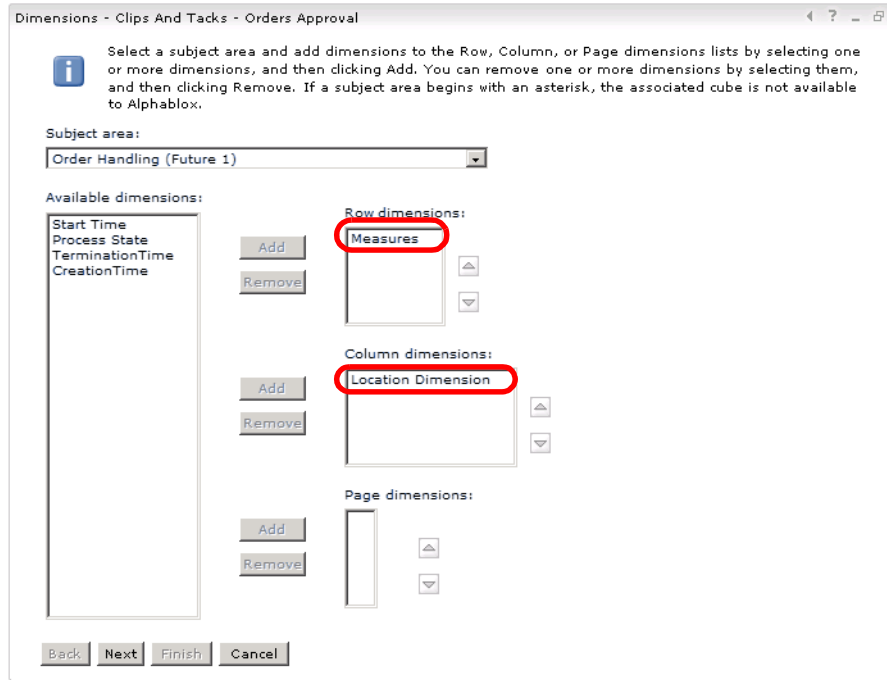

Figure 13-18 Configuring dimensions: Rows and columns
- ▶ Select the dimension you want to view for this page, configure using the following information (Figure 13-18):